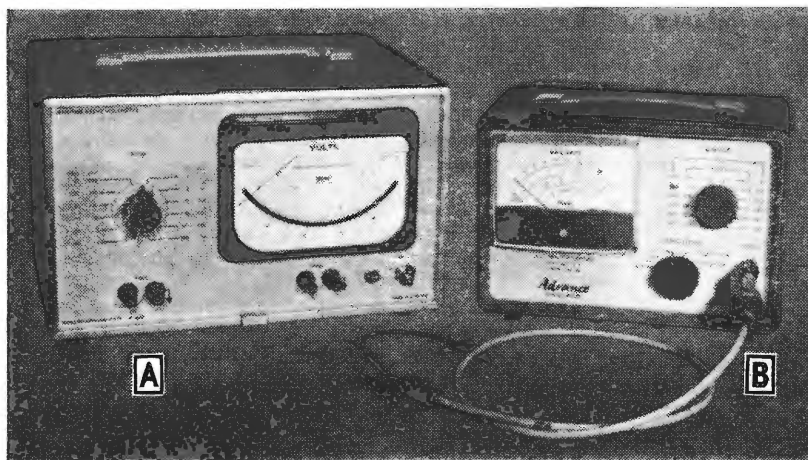

Fig. 24. A.C. valve-voltmeters: (A) Marconi TF2600; (B) Advance VM78 (transistorised).
Fig. 24 shows two good examples of commercial a.c. valve voltmeters in common laboratory use. (A) is the Marconi TF 2600 with 1 mV f.s.d. in its most sensitive range and a 5% accuracy bandwidth of 10 c/s - 5 Mc/s. (B) is the Advance VM78, which is transistorised. This, too, has a most sensitive range of 1 mV f.s.d. and a 3% accuracy range of 1 c/s-1Mc/s. Apart from Advance and Marconi, some other names in the a.c. valve volt-